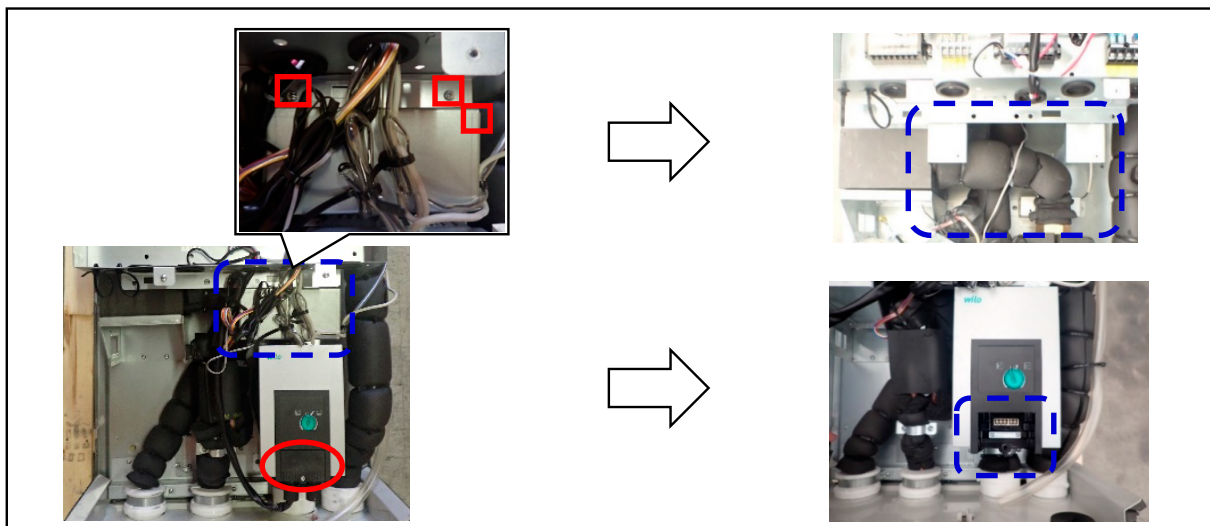

Fig7. Removing power connections and bracket
(2) Water pump
- (a) Loosen the screws and remove the power connections.(○ mark, Fig.7)
- (b) Remove 3 screws and bracket.(□ mark, Fig.7)